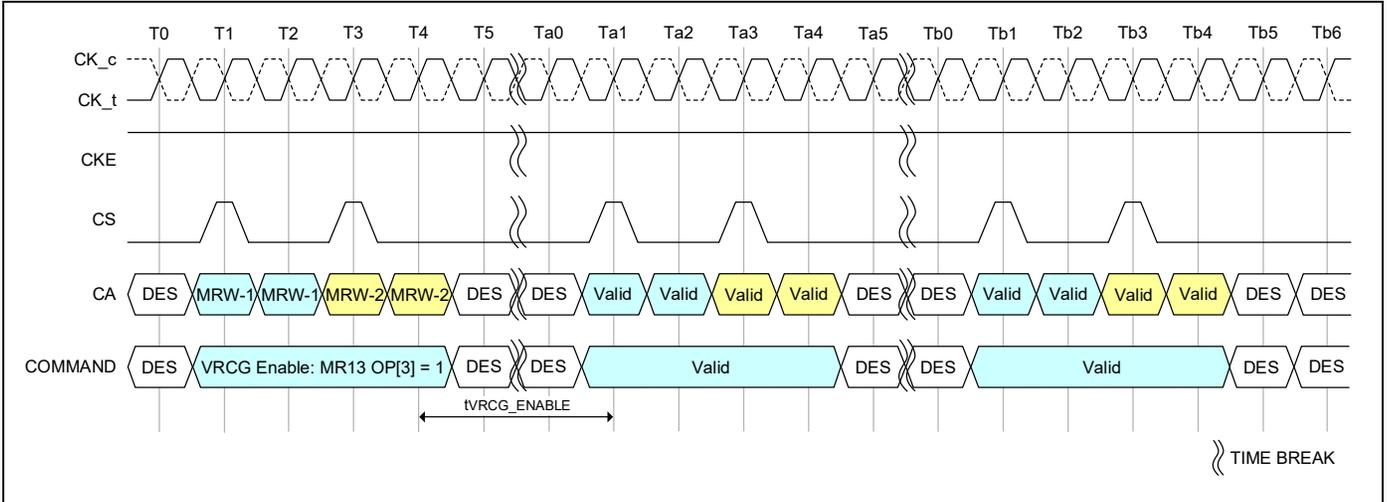

Figure 82 - VRCG Enable timing
LPDDR4/LPDDR4X SDRAM VREF current generators (VRCG) incorporate a high current mode to reduce the settling time of the internal VREF(DQ) and VREF(CA) levels during training and when changing frequency set points during operation. The high current mode is enabled by setting MR13 OP[3] = 1. Only Deselect commands may be issued until tVRCG_ENABLE is satisfied. tVRCG_ENABLE timing is shown in Figure 82 and Table 47.